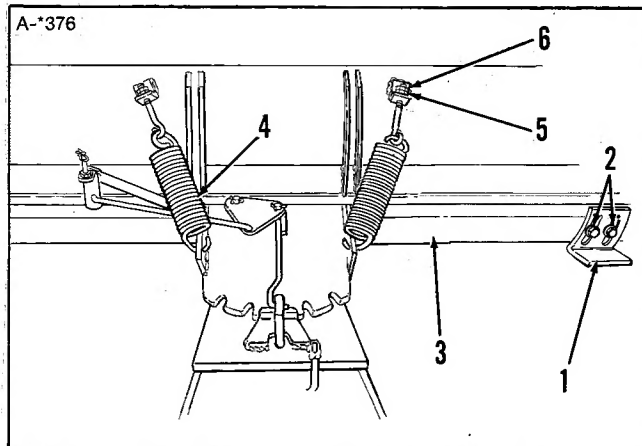

Figure 11. Adjust Skid Shoes and Springs
3. Loosen the capscrews (2, figure 11) on the skid shoes.
When the wear plate (3, figure 11) strikes a solid object, the top of the blade should trip forward. This action releases the load on the blade in order to prevent damage. The force required to trip the blade in this manner depends upon the tension setting of the springs (4). When the blade trips too easily or fails to trip, readjust the spring tension as follows:
1. Hold rear nut (5) while loosening front nut (6).
2. Turn rear nut (5) clockwise to tighten. Tighten this nut if blade trips too easily. Loosen nut counter-clockwise if blade fails to trip.
3. Hold rear nut (5) while again tightening front nut (6). The two nuts must be drawn firmly enough.